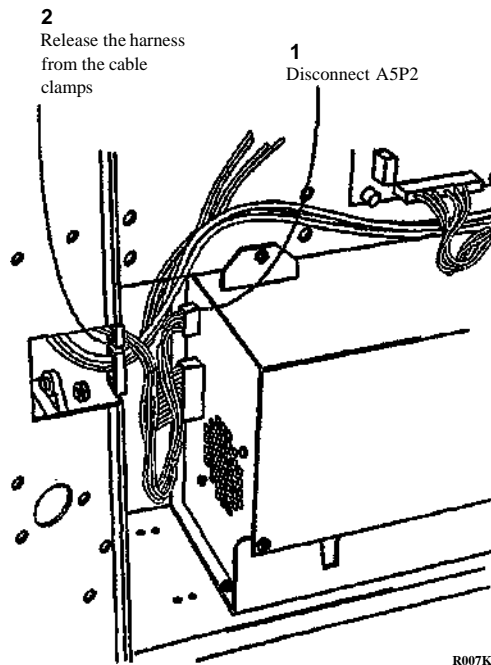

Figure 7. Preparing the Harness for Removal
13. (Figure 7): Disconnect A5P2 from the Low Voltage Power Supply and release the harness from the cable clamps.